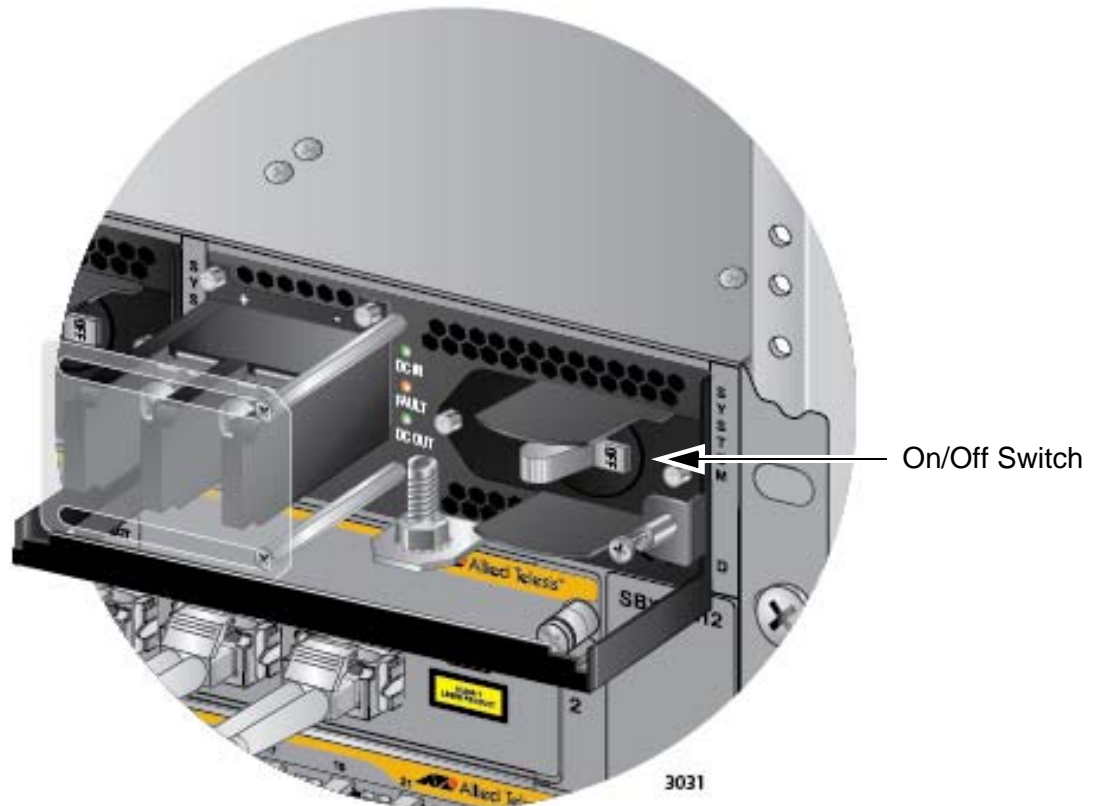

Figure 123. On/Off Switch on the AT-SBxPWRSYS1 DC Power Supply
3. Verify that the On/Off switch on the AT-SBxPWRSYS1 DC Power Supply is in the Off position. Refer to Figure 123 on page 189.
13. Turn the On/Off switch on the power supply to the On position. See Figure 123 on page 189.
2. Verify that the On/Off switch on the AT-SBxPWRSYS1 DC Power Supply is in the Off position. Refer to Figure 123 on page 189.
12. Turn the On/Off switch on the power supply to the On position. See Figure 123 on page 189.
11. Turn the On/Off switch on the power supply to the On position. See Figure 123 on page 189.